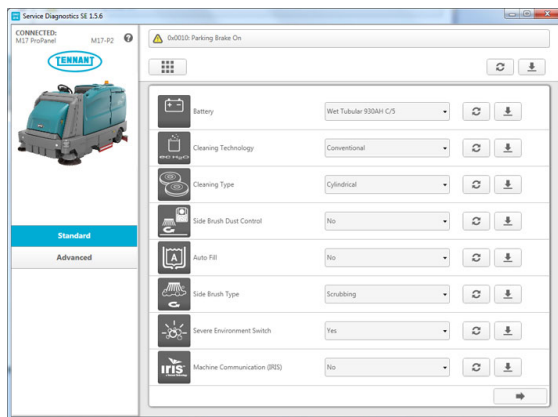

FIG. 21
- Carefully select the correct installed options on the machine (Fig. 21). This may require visually inspecting the machine to confirm all installed options. Press the arrow button to advance to next screen.